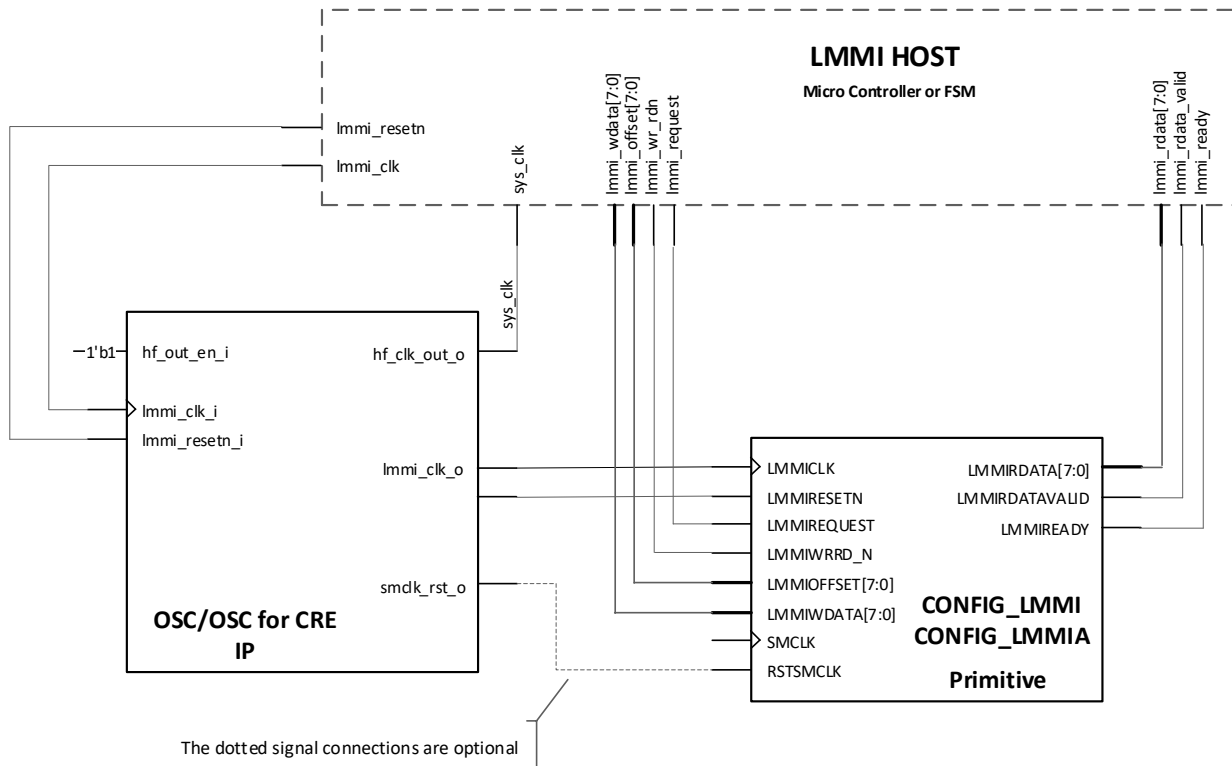

Figure D.2. CONFIG\_LMMI(A) Primitive and OSC/OSC for CRE IP Connection
In the user design, the CONFIG\_LMMI(A) primitive and OSC IP should be connected as shown in Figure D.2.